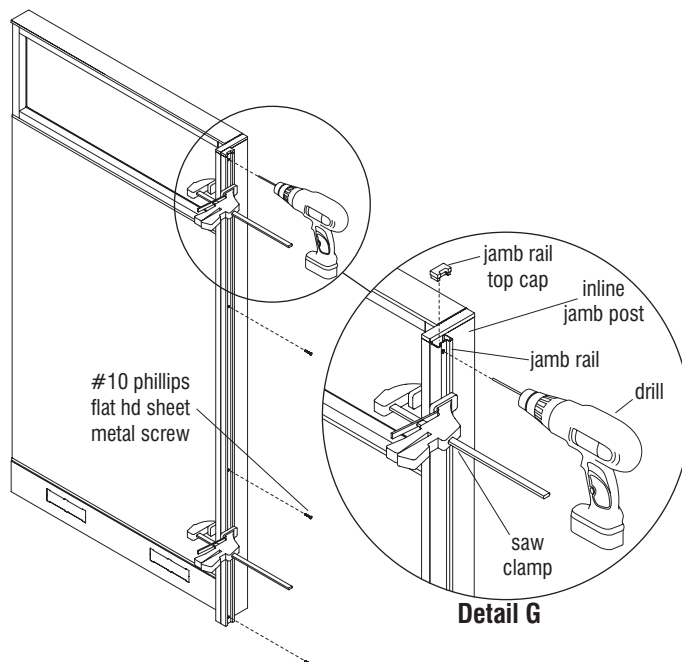

Figure 11
4. While the jamb rail is clamped securely and straight, use a  $\frac{1}{8}$ " drill bit and bore holes through the inline jamb post using each of the four jamb rail holes as guides for drilling (Figure 11).
5. Install four #10 Phillips flat head sheet metal screws to secure the jamb rail to the jamb post. Do not over-tighten screws (Figure 11).